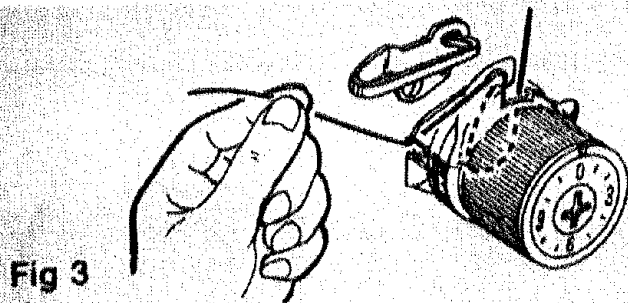

Fig 3
Place cover on machine with words "Sears" on handle facing you. The case slopes in the same direction of the machine. (Fig. 3)
3. After the thread has slipped into the hook, allow the spring wire to return to position by releasing the thread spool. Fig. 3.